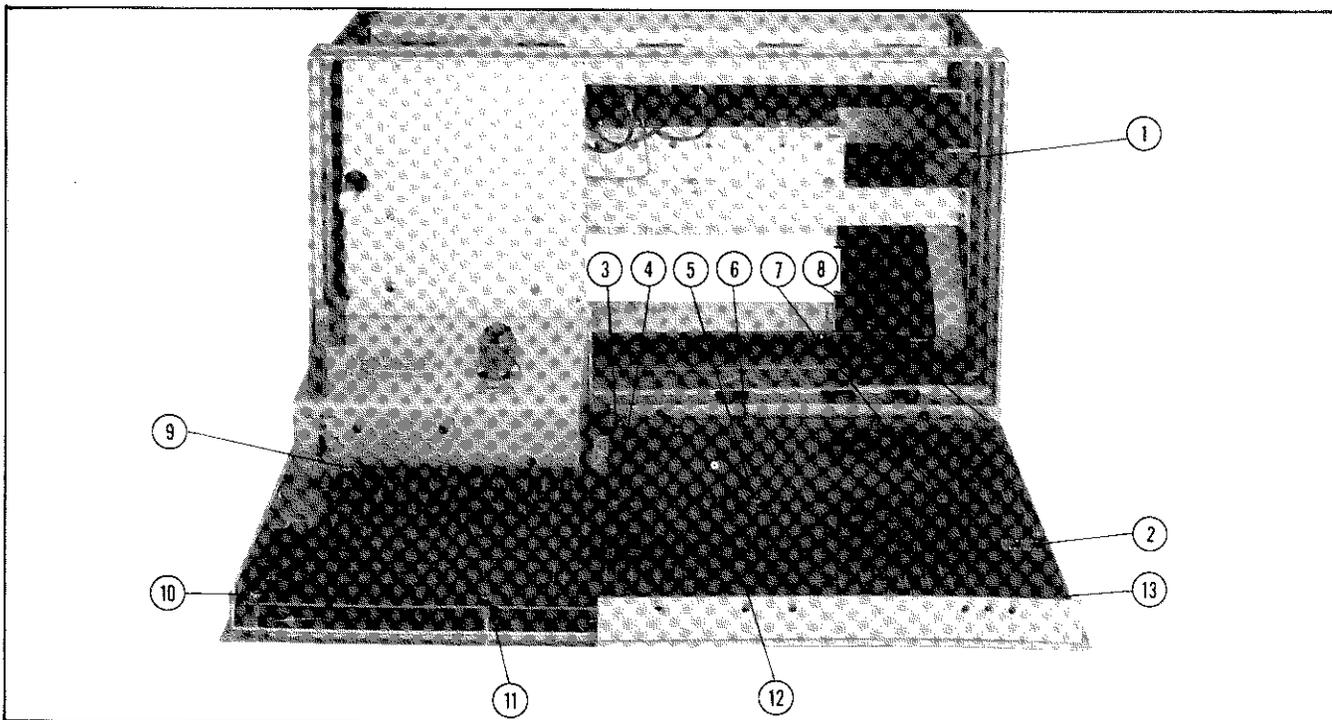

Figure 8-20. A22 Display and Keyboard Control Board Disassembly.
- i. Disconnect the flat cable ① (shown in Figure 8-20) from the socket ② on the A22 board.
- k. Remove the eleven screws ③ through ⑬ in Figure 8-20) securing the A22 board to the front panel.